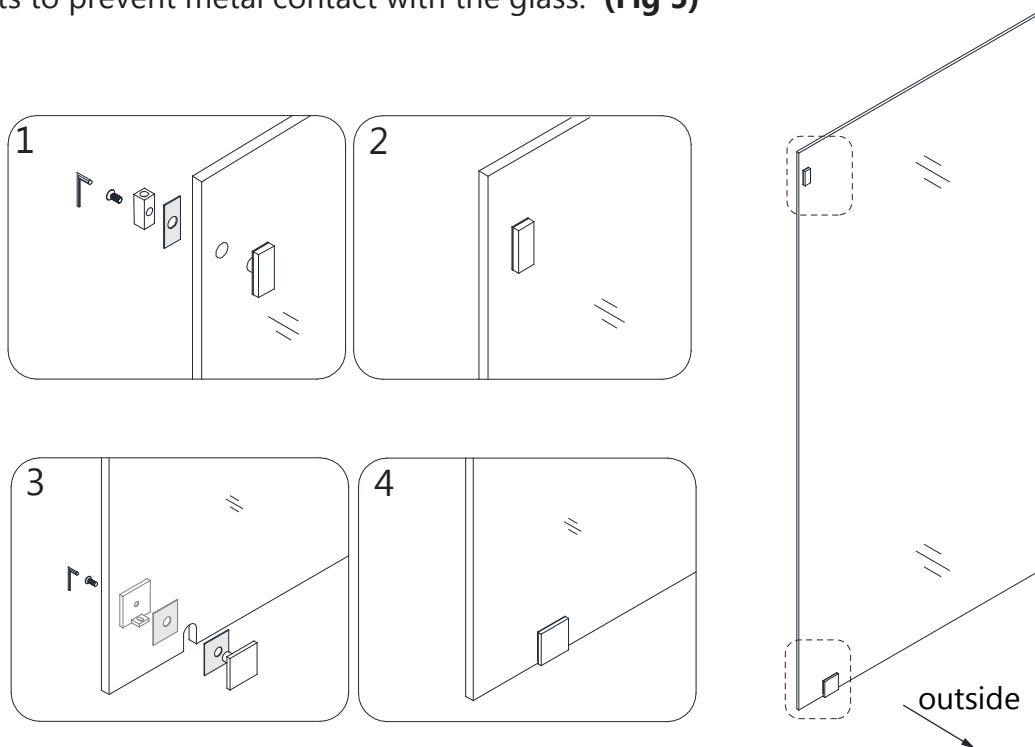

Fig 5
5. Attach the **Stationary Glass Connector (#23)** through the hole at the top of the **Stationary Glass (#22)**. Attach the **Bottom Bracket (#24)** to the bottom of the **Return Panel Glass (#22)**. Use the supplied gaskets to prevent metal contact with the glass. **(Fig 5)**